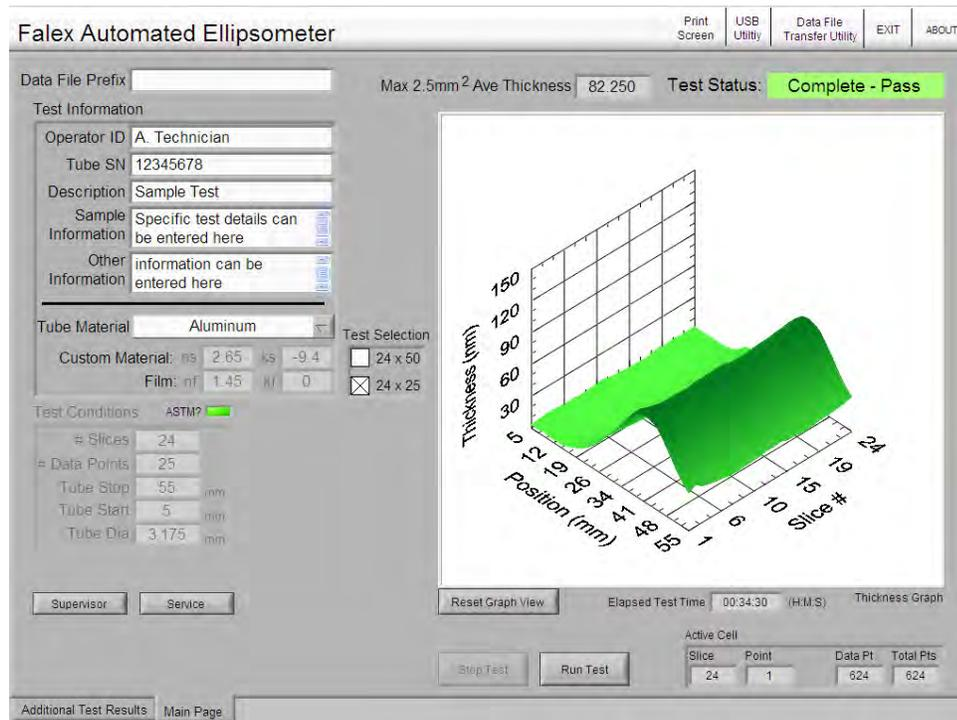

Figure 18 – Test Complete Display
16. After the 'Test Complete' popup has closed, the final test result will be displayed on the 'Main Page' (figure 18) and the test data file will be closed. The data file can be saved to a flash drive for review on an external PC or printed (if a printer is connected and configured). A test report including the 3D data graph can also be printed (if a printer is connected and configured).